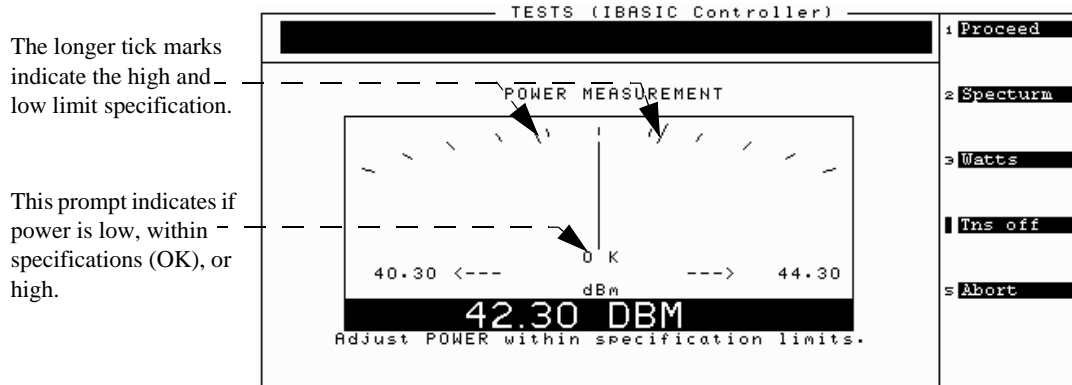

Figure 20 TX Total Power Meter Display
1. When the testing is complete for the first channel, the Test Set will display the power meter screen (see figure 20) if you set the `Adjust Power Level` parameter to `Always` or `On fail` in the `Test Parameters & Specs Menu` screen.